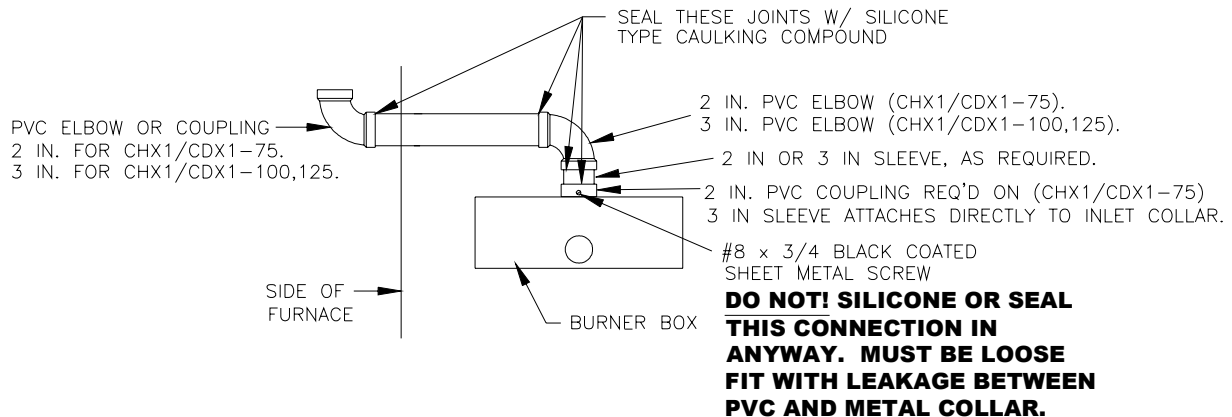

Figure 12
Note: The PVC connection to the metal burner box collar does not require silicone sealant or PVC cement. Attach the PVC elbow to the sleeve and then to the coupling where required, using silicone type sealant (see figure 12).
- c. Install the precut 2" or 3" PVC pipe into the elbow at the burner box and to the elbow or coupler just outside the furnace using silicone type sealant. To make these seals, run a bead of silicone type sealant around the PVC pipe 3/8" from either end, insert into the appropriate couplings and elbows and rotate 1/4" turn. This will allow for easy disconnection in case the burner assembly must be removed at a later date (see figure 12).